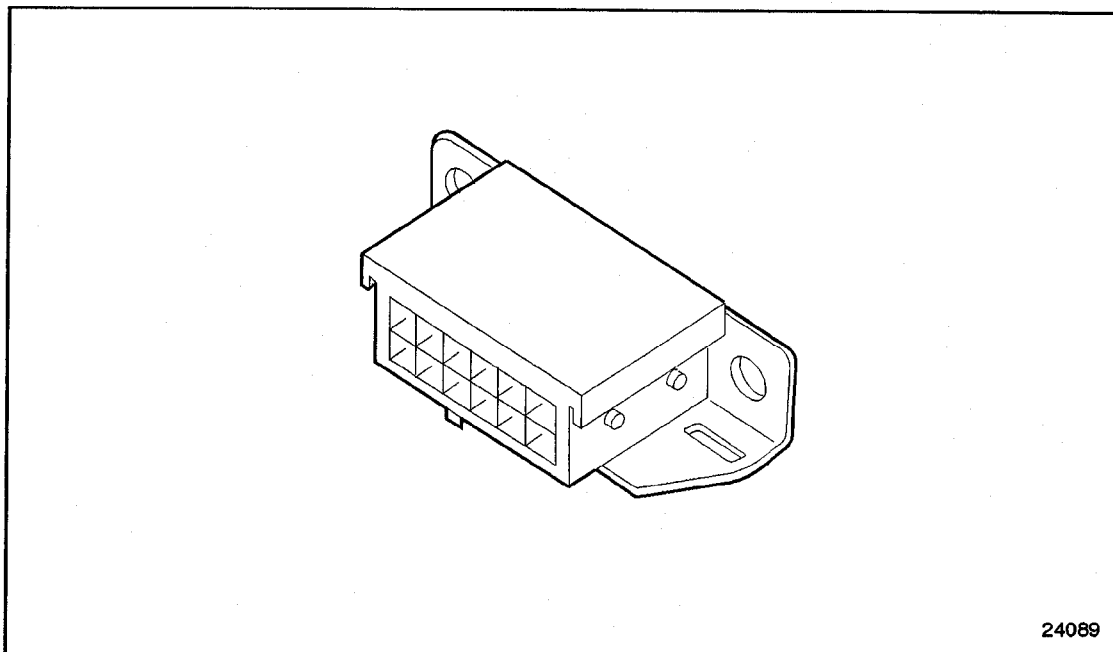

Figure 24-1 Typical Display Data Line Adaptor
1. Install the Diagnostic Data Reader to the vehicles Display Data Line Adaptor, see Figure 24-1; refer to OEM guidelines.